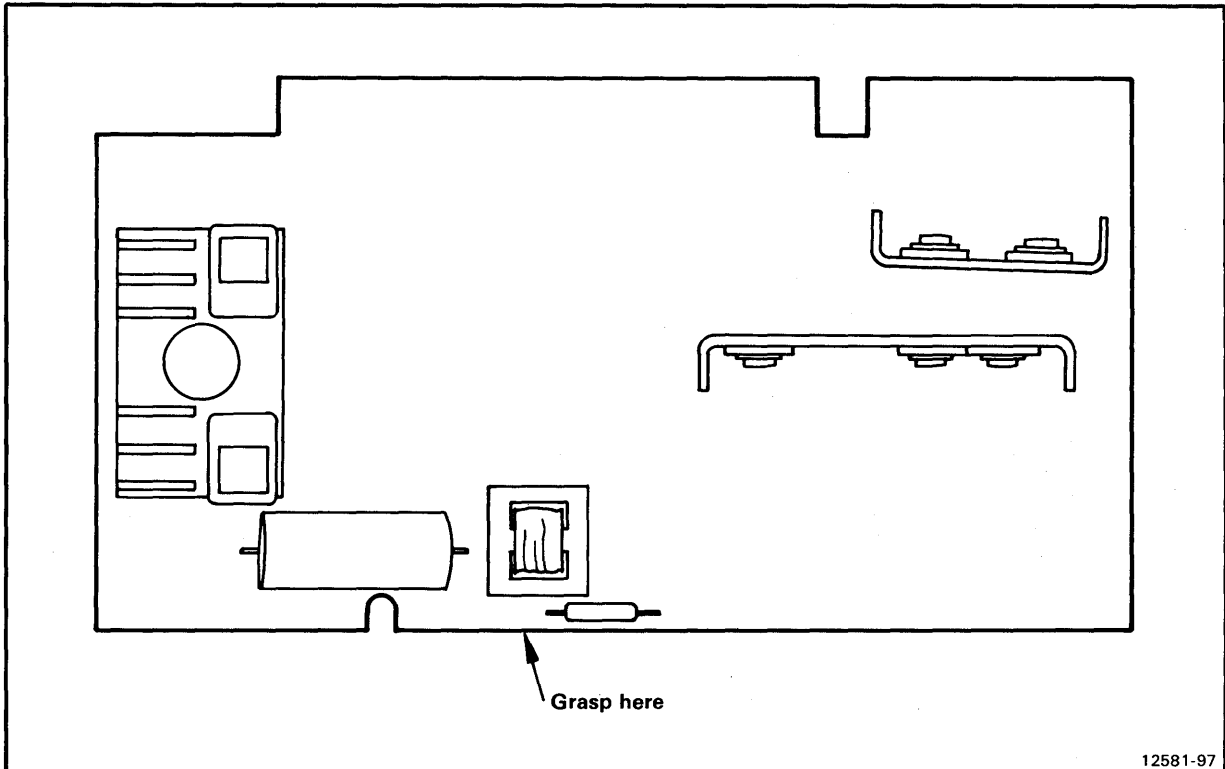

Fig. 12-4. Inverter board.
3. Three plug-in circuit boards are now visible through the opening that the fan housing normally covers. The Inverter board is the lowest of these three boards. To remove the Inverter board, grasp the left side of the board firmly with a pair of insulated needle-nose pliers (see Fig. 12-4), and pull the board out.